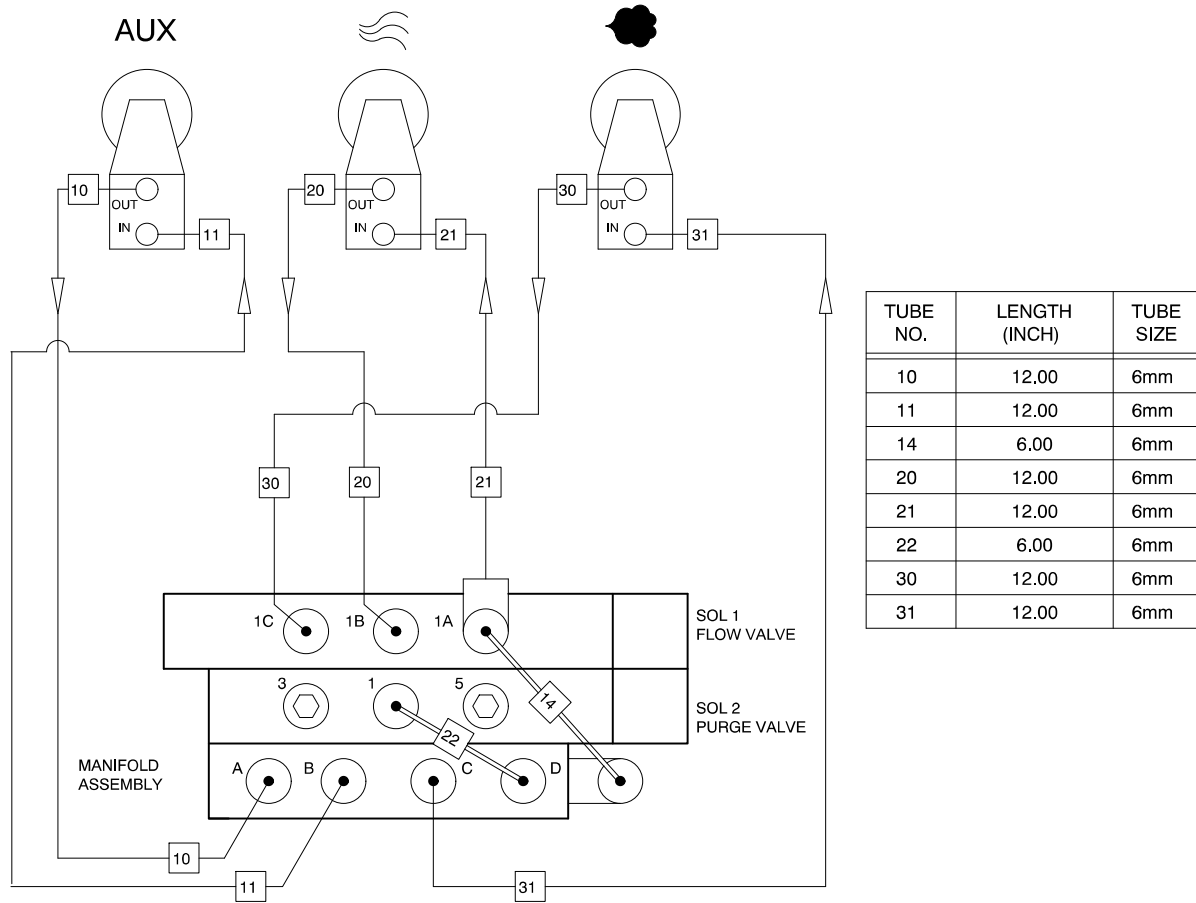

Figure 6-5 Pneumatic Diagram
2. Remove the four screws (2) securing the manifold panel (6) to the bottom of the control unit (1).
3. Disconnect the air tubing from the manifold assembly (5).
4. Disconnect the ground wire from the manifold panel ground stud (3).
5. Separate the solenoid coils (7) from the manifold by removing the knurled nuts (9) and washers (8) and pulling off the coils.
6. Remove the two screws (4) securing the manifold assembly to the manifold panel.
11. Connect the air tubing to the manifold assembly. See Figure 6-5 for a pneumatic diagram.
Once the manifold is removed from the control unit, either of the spools can be rebuilt. See Figure 6-5 to determine which valve to repair.
5. Connect the air tubing to the new regulator/gauge. See Figure 6-5 for a pneumatic diagram.